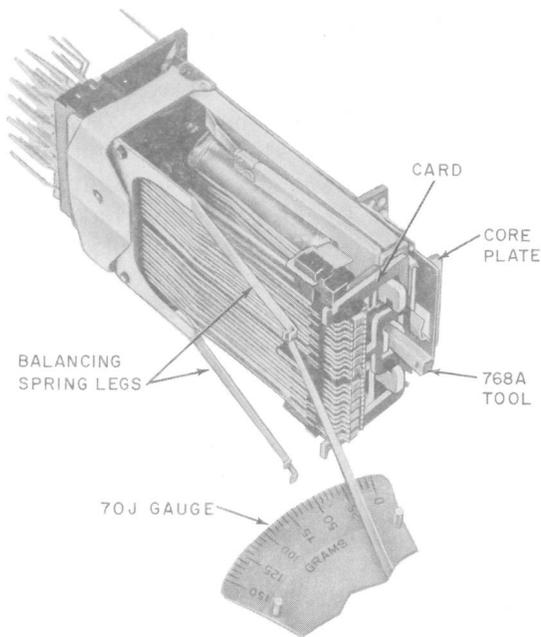
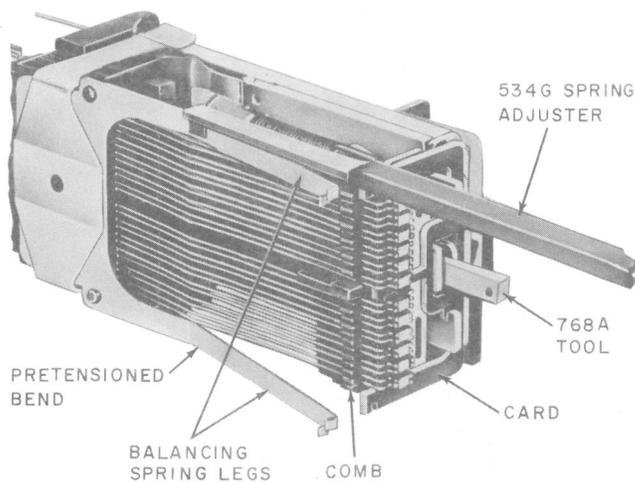

Fig. 14—Method of Checking Balancing Spring Tension
Fig. 15—Method of Adjusting Balancing Spring Tension—AL-Type Relay
- (4) For AL-type relays, measure the tension of the balancing spring legs as follows. Insert the tip of the 70J gauge between the two projections at the front end of the leg of the spring and move the spring toward the right until it touches the edge of the card as shown in Fig. 14. With the spring in this position, read the tension on the gauge. If there is considerable difference between the tension of the balancing spring legs, adjust the leg having the lower tension to a value approximately equal to that of the other leg using the proper spring adjuster as covered in (6), (7), and (8). If the requirements are still not met, increase or decrease the tension of both legs as required.
- (5) The legs of the balancing spring are pretensioned; therefore, do not attempt to remove the bends in the legs since this would make it impossible to obtain a satisfactory tension adjustment. Take care not to slide or draw the spring adjuster over a bend in a pretensioned spring.
- (6) To adjust the balancing spring legs for tension, use the 534J spring adjuster for 0.018-inch springs and the 534G spring adjuster for 0.020- and 0.025-inch springs.
(7) Place the slotted portion of the proper spring adjuster on the leg of the balancing spring just in back of the two projections at the end of the leg. Slide the adjuster back until the end of the insulation on the handle is in line with the end of the spring. This will bring the slotted portion of the adjuster close to the pretensioned bend in the spring as shown in Fig. 15 and 16. With the adjuster in this position, bend the spring to the left to increase the tension while maintaining a pressure on the adjuster toward the right. This pressure on adjuster is necessary in order to avoid distorting the portion of the balancing spring leg to the rear of the pretensioned bend. If necessary to decrease the tension to meet the requirements, bend the spring to the right while maintaining a pressure on the adjuster toward the left. Take care when adjusting the legs of the spring to adjust them in line with their movement and to avoid